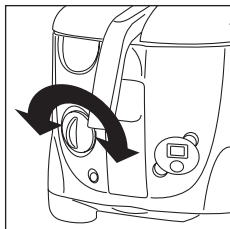

fig. 6
3. Set thermostat knob to the required temperature (fig. 6).